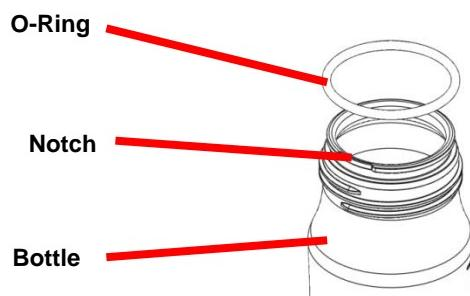

Figure 1.
- The water bottle O-ring (HPG-4002) is subject to wear over time. If damage or deformation is detected please contact EndoChoice or its representative to order a replacement. To remove the O-ring, pull out the portion that lies in the notch along the bottle's rim (see Figure 1). Attempting to pry the O-ring out of its groove could damage the O-ring.